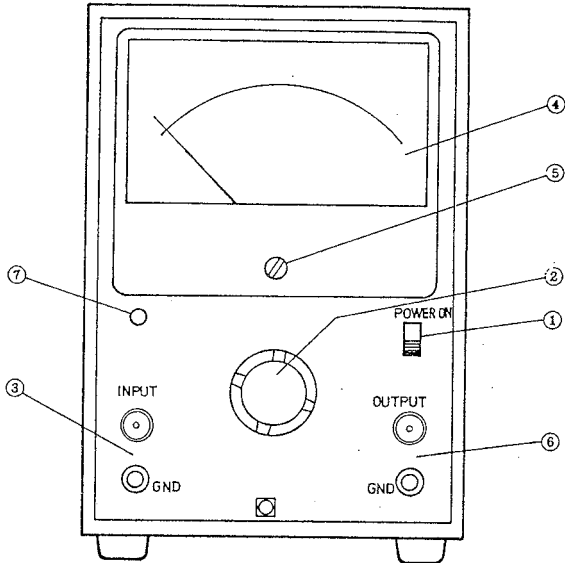

Fig. 3-1
- (1) Turn OFF the POWER switch at the right-hand side on the front panel.
- (2) Check that the meter pointer is settled accurately at the zero scale position. If it is not, set it accurately in the zero position as explained in Item (5) "ZERO adjustment" of Sub-section 3.1 "Preparation for Measurement." (Refer to Fig. 3-1.) If the voltmeter power has been OFF, turn it and allow more than 5 minutes so that the meter pointer is settled in a position close to the zero scale position.
- (3) Connect the power cord to an AC power line outlet of 100 V (or other voltage to which the voltmeter has been converted), 50 or 60 Hz.
- (4) Set the RANGE switch in the highest voltage range (100 V or 150 V).
- (5) Turn ON the POWER switch. The POWER PILOT lamp will light indicating that the power is turned on. The meter pointer may deflect irregularly for about 10 seconds after the switch is turned ON (or OFF), but this is only transient and not an abnormal indication.
- (6) When the pointer is stabilized, the voltmeter is ready for measurement.